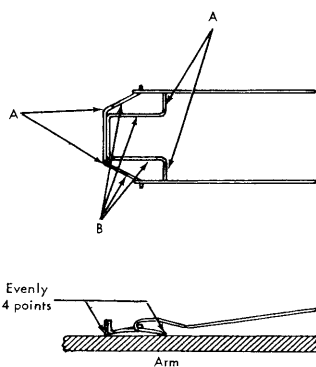

Figure 66. Head Lifter Springs
**NOTE:** With tubing removed, replace the head springs temporarily and adjust as follows: The head-lifter springs should rest evenly on the arm at the four points labeled "A" (Figure 66). This is to prevent a rocking action when air is applied or removed. Adjust by forming head lifter springs at points labeled "B" (Figure 66). However, spring replacement is recommended if possible.
(3) An IBM or other mechanical pencil may be used to prestretch the inside diameter of the tubing before installing onto the nipples. Warming the tubing in the hand facilitates installation.
(4) If the plastic tubing has a permanent curl, the tube should be installed on the arm nipple so that it curves away from straddling disk and in a plane vertical to the disks. Use only the plastic tube tool (#210835) provided in the head cleaning kit to install and adjust tubing.
(5) Install the air head in the other end of the tubing so that in its free position, the gimbal pin axis is parallel to the horizontal plane of the arm.
(6) Replace head plug and spring in arm. Do not put spring into gimbal pins.